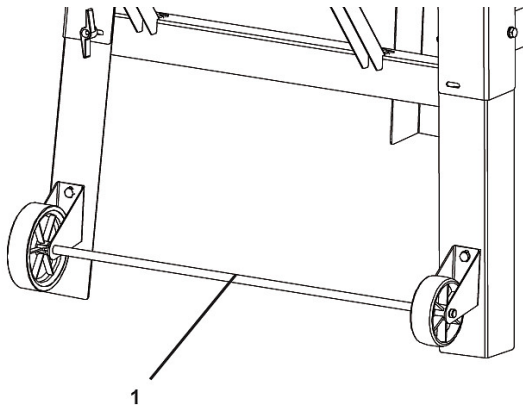

Fig. 9: Mount transport wheels
Step 9: Mount the wheel set (Pos.1, Fig.9) to the feet.